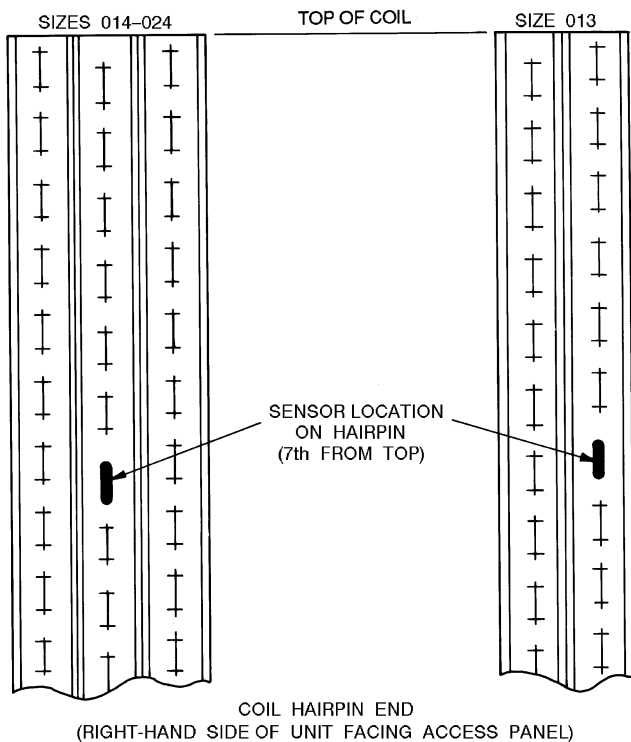
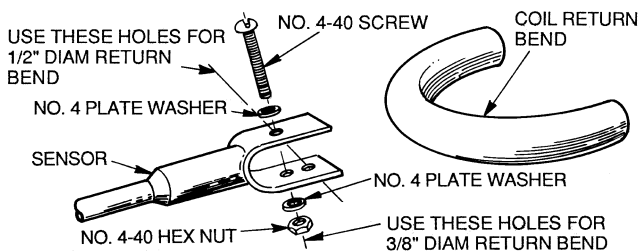

Fig. 12 — Location of Low-Ambient Kit Sensors
Fig. 13 — Sensor Installation
1. See Fig. 12 to determine where to locate sensor on coil return bend. As shown in Fig. 13, fasten sensor to return bend with the supplied screw, plate washers, and nut. See Table 1 for sensor temperature vs resistance values.